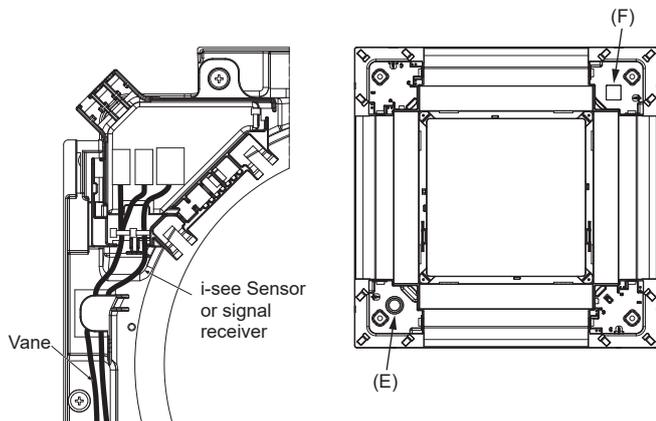

Fig. 6-14
- Route the i-see Sensor and signal receiver wires as shown in Fig. 6-14.